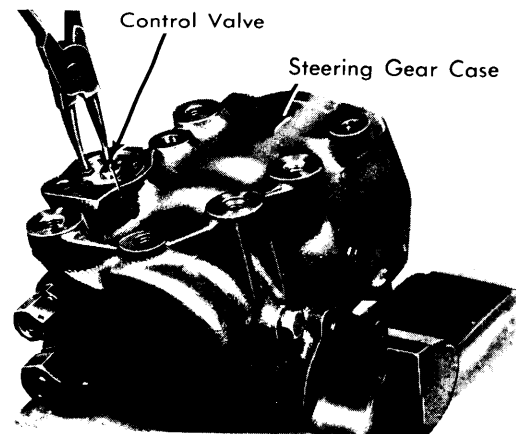

Fig. 9 Steering Gear Case with Detail of Control Valve
12) Remove lock ring, cover and control valve from steering gear case. See Fig. 9.